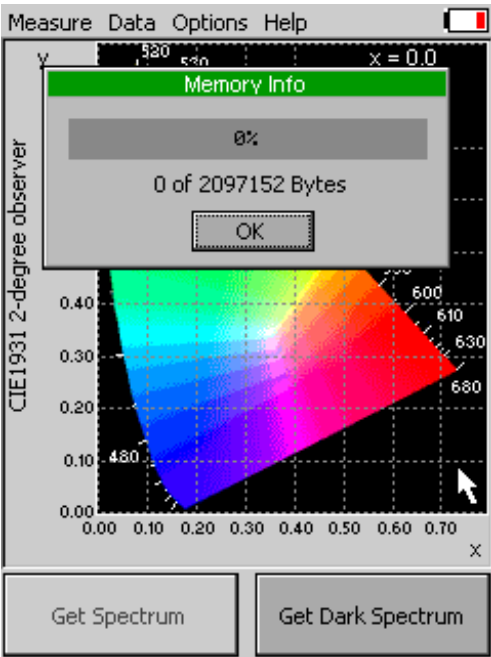

Fig. 11 Memory info.
- **Memory info** (Fig. 11) – displays info on current amount of used internal memory in the SpectraPen LM 510 device